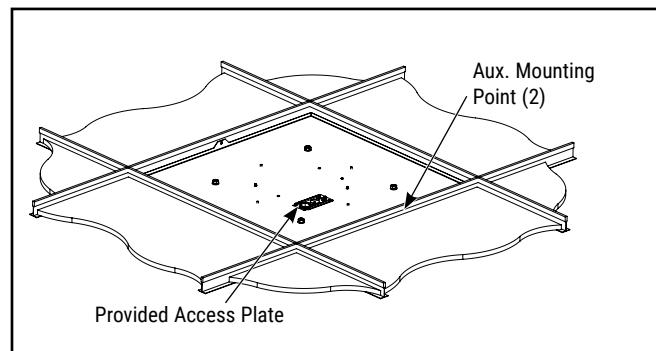

**Figure 2.**
2. Place the fixture with ceiling plate in the grid ceiling system. (See Figure 2).